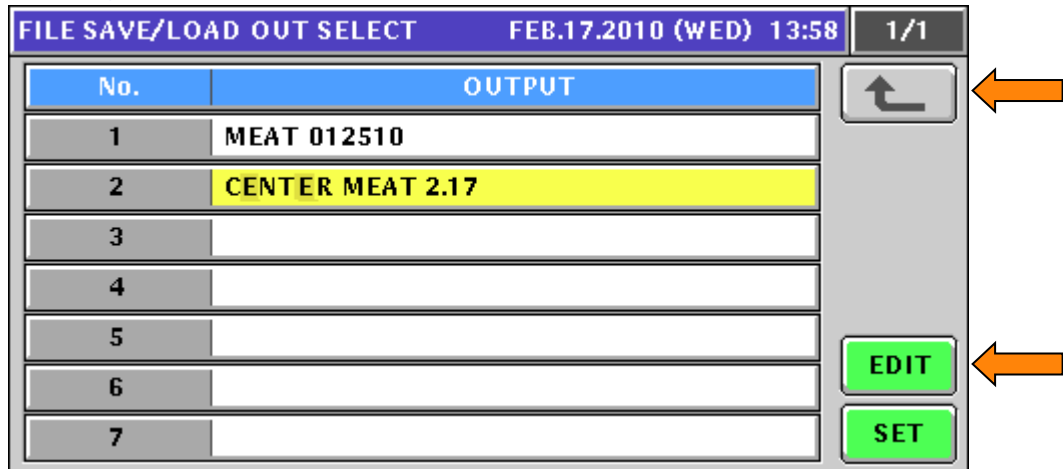

Figure 3. Create Output File
- j. Press the **EDIT** button to name the file. See Figure 3.
- l. Press the **RETURN ARROW** (top right) to exit and save the file name. See Figure 3.